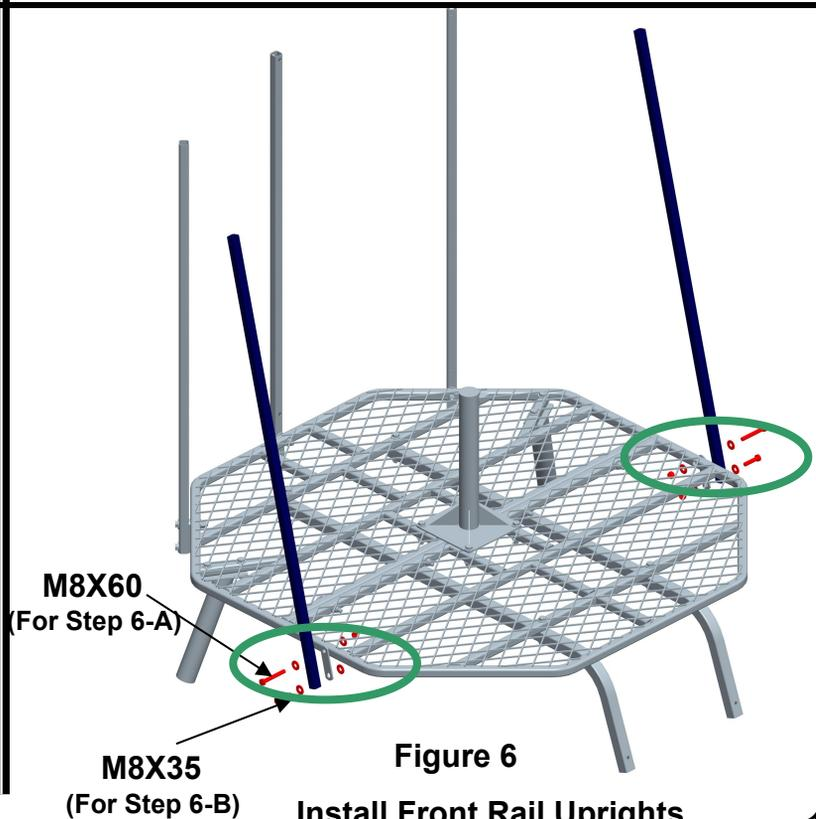

Figure 6
B: Then using one (1) M8x35 Bolts, two (2) Nylon Washers and one (1) Locknut (for Lower Hole). as shown in Figure 6.